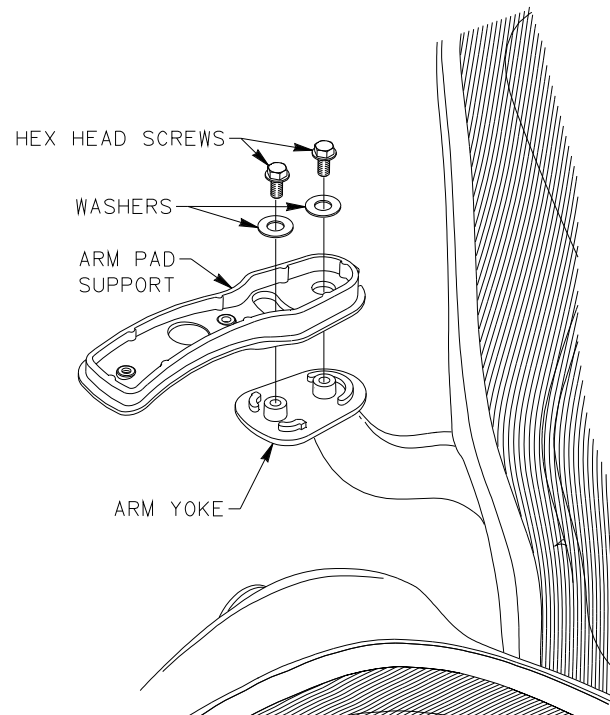

FIGURE 2
2. USING 13MM SOCKET AND RATCHET WRENCH, REMOVE AND SAVE HEX HEAD SCREWS WITH WASHERS, SECURING ARM PAD SUPPORT TO ARM YOKE. REMOVE AND PROPERLY DISPOSE OF ARM PAD SUPPORT. SEE FIGURE 2.
3. INSTALL REPLACEMENT ARM PAD SUPPORT TO ARM YOKE. REINSTALL HEX HEAD SCREWS WITH WASHERS. TIGHTEN AND TORQUE SCREWS TO 200-250 IN-LBS. SEE FIGURE 2.